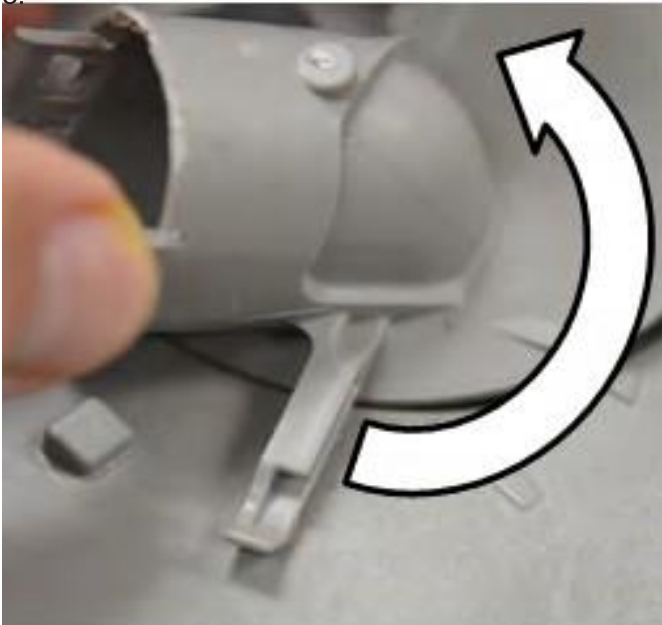

Figure 5
4. Rotate the housing counterclockwise, see figure 5.